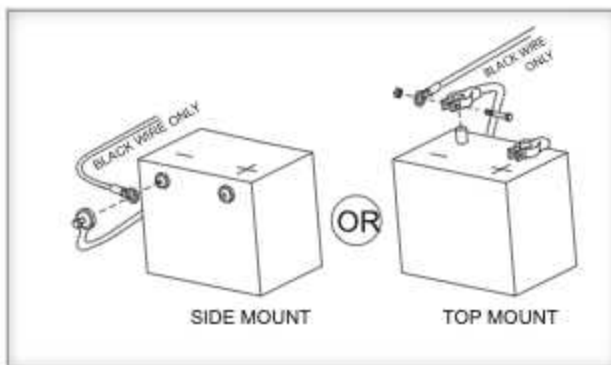

Figure 17-2
2. Begin routing the wiring harness at the vehicle battery. Attach the black wire to the negative terminal on the battery. Do NOT attach the red wire until the very end of installation. [Figure 17-2]